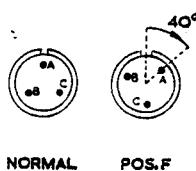

Fig. 1. Insert positions (Table 1)
3. A polarizing key and keyway machined on the shell of plugs and receptacles respectively ensure correct location when mating connectors. During the manufacture of orientated connectors, the insert is rotated a fixed number of degrees for each alternate insert position from the normal. Fig.1 shows the normal and position F for receptacles; for plugs the insert would be rotated in a counter-clockwise direction. Available alternate insert positions are listed in Table 1.
Insert position (fig.1)